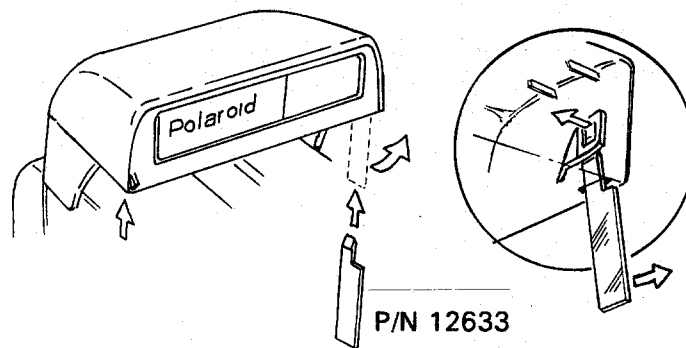

Fig. 1 Removing Strobe Cover
1. Remove Strobe Cover using removal tool 12633. Insert tool in hole on right side underside of Housing and tilt bottom of tool to the right (CCW) to release molded catch inside cover (A in Fig. 1). Repeat process on left side, tilting bottom of tool to the left. Lift off Cover.